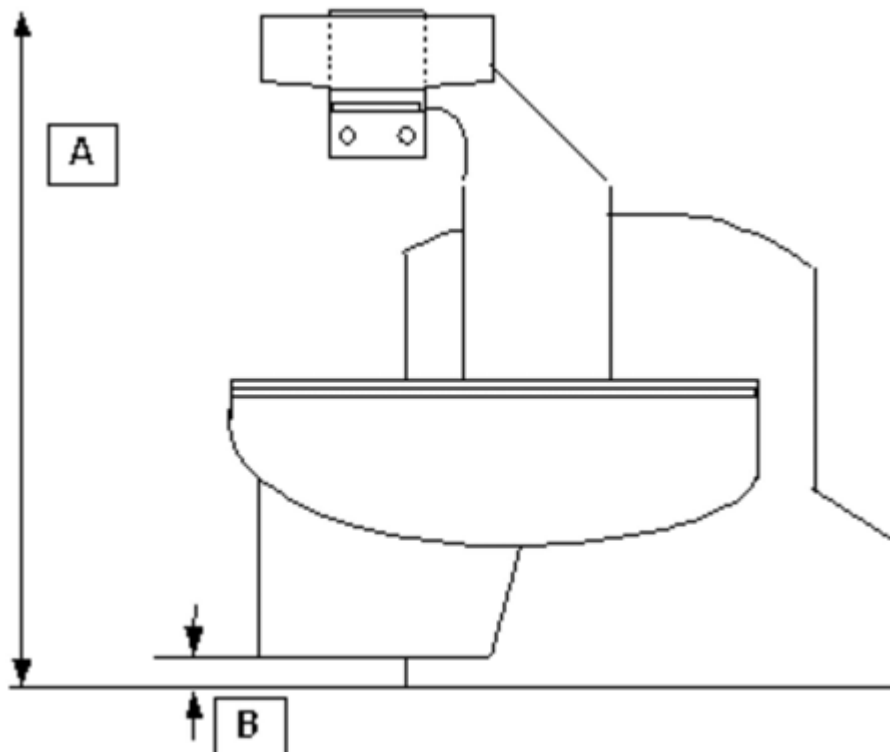

Fig. 43: Room dimensions - 1
- Measure the distance A from the floor to the ceiling (Fig. 43 / p. 72).
- Measure the distance from the lowest point of the I. I. with I. I. collision protection cover to the floor (Fig. 43 / p. 72).